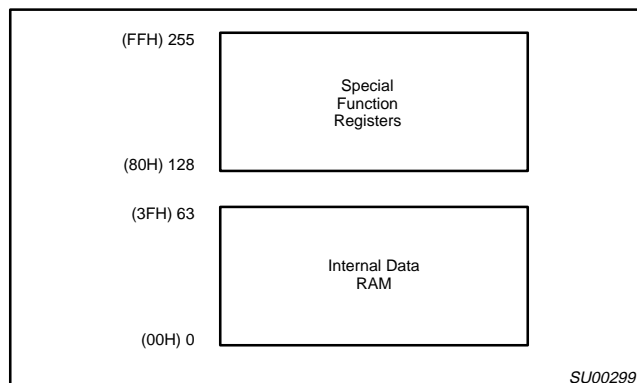

Figure 3. Memory Map
The central processing unit (CPU) manipulates operands in two address spaces as shown in Figure 3. The part's internal memory space consists of 2k bytes of program memory, and 64 bytes of data RAM overlapped with the 128-byte special function register area. The differences from the 80C51 are in RAM size (64 bytes vs. 128 bytes), in external RAM access (not available on the 83C751), in internal ROM size (2k bytes vs. 4k bytes), and in external program memory expansion (not available on the 83C751). The 128-byte special function register (SFR) space is accessed as on the 80C51 with some of the registers having been changed to reflect changes in the 83C751 peripheral functions. The stack may be located anywhere in internal RAM by loading the 8-bit stack pointer (SP). It should be noted that stack depth is limited to 64 bytes, the amount